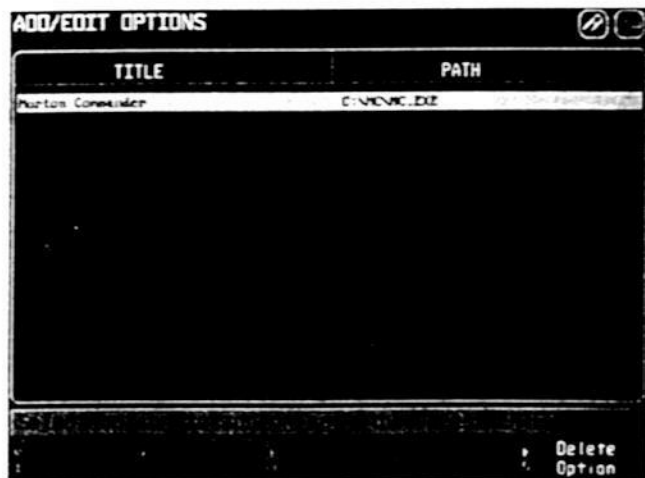

Figure 4-6
2. Highlight *Add/Edit Other Options*, then press [ENTER]. A screen similar to the *Add Edit Options* screen in figure 4-6 appears. If you have multiple options installed, their names will be listed.
1. Select *Add/Edit Other Options* from the *Other Options* menu and press [ENTER]. The *Add/Edit Options* screen will appear (see Figure 4-6).
4. Type in the required information and press [ENTER]. When you are finished, the option will appear in the list in Figure 4-6.
1. Select *Add/Edit Other Options* from the *Other Options* menu and press [ENTER]. The *Add/Edit Options* screen appears, (see Figure 4-6).